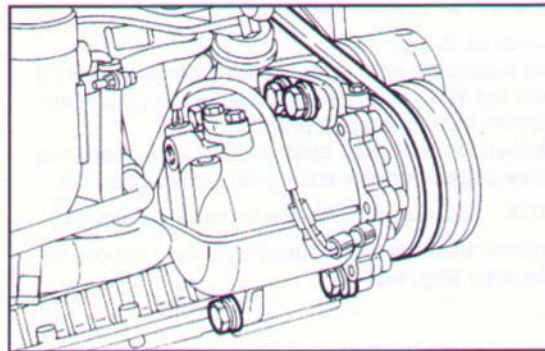

Fig. 9 ▲
- slacken the four air conditioner compressor mounting screws and slip the belt off (**Fig. 9**);